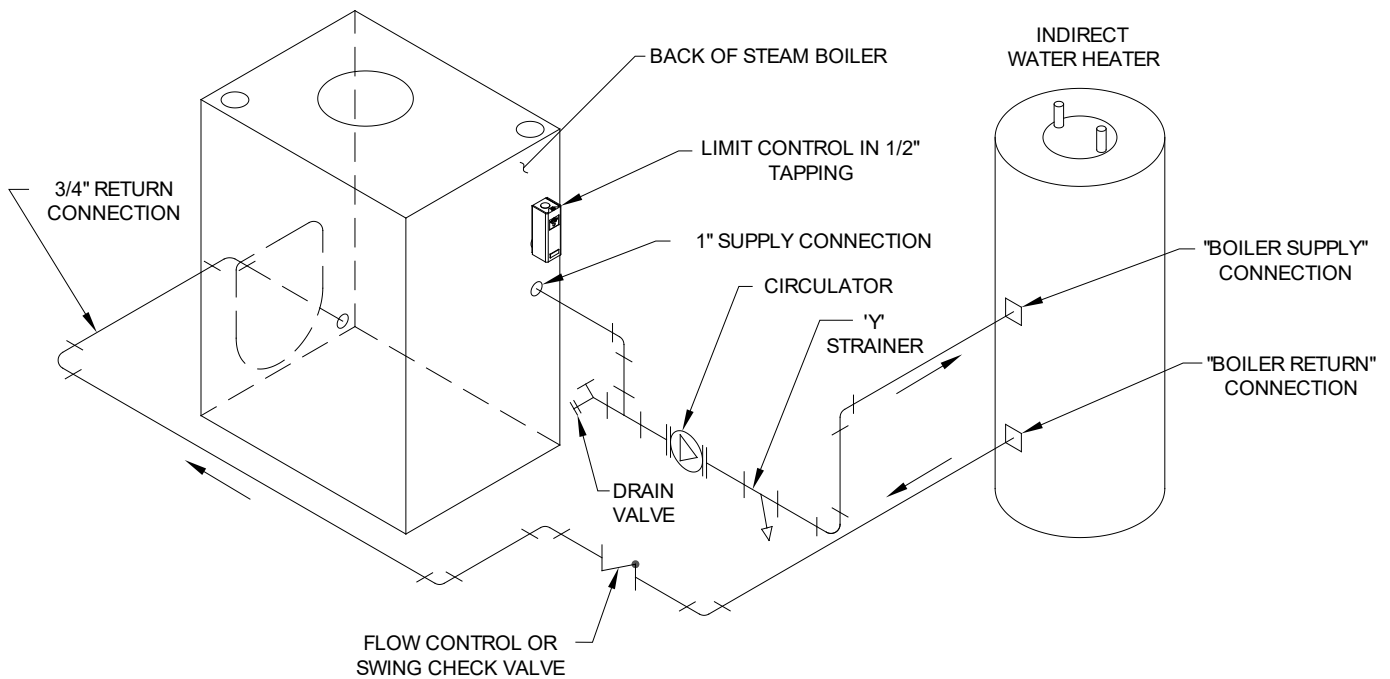

Figure 5-2: Indirect Domestic Water Heater Piping
B. CONNECT INDIRECT DOMESTIC WATER HEATER PIPING as shown in Figure 5-2.